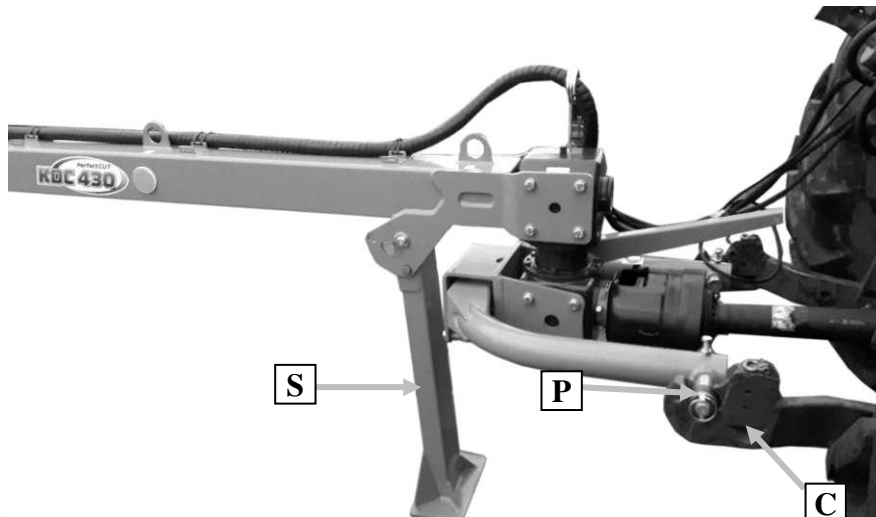

Fig. 9. Connecting mower to the tractor
- Attach the mower to the tractor with use of 3-point linkage frame Therefore drive the tractor near the mower's catch and connect pins (**P**) on the catch with links (**C**) on the tractor, and then secure them with cotters as shown on **Fig. 9**.
- Connect telescopic articulated shaft. If need be shorten the shaft as per item 5.4.